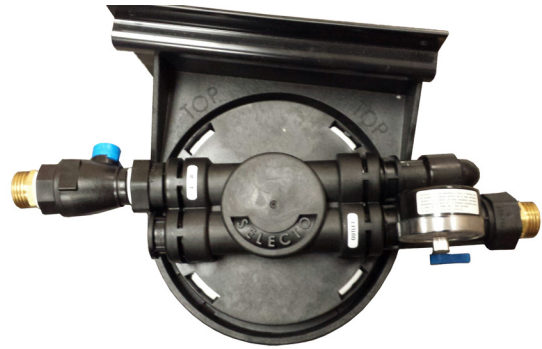

Fig. 2
2. The photo in Figure 2 shows the filter in the as received condition with the blue retaining clips removed. Remove all sections from the filter head by sliding them straight out. Due to interference the pressure relief valve will have to be removed last.